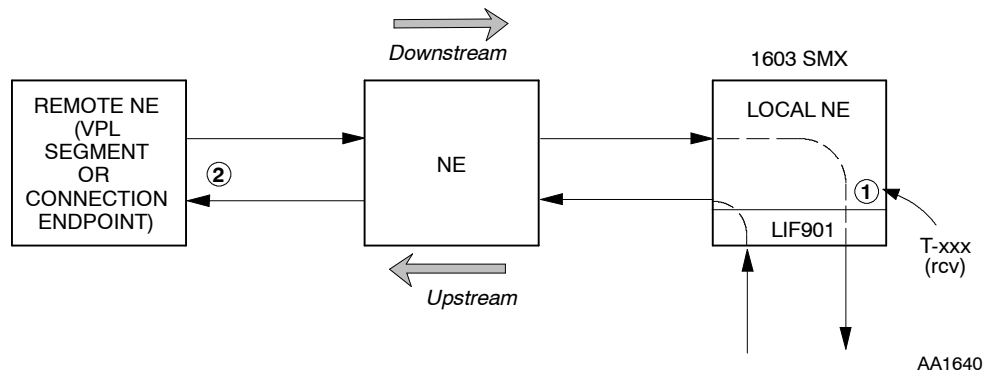

Figure 5. Receive NEND and FEND T-xxx on LIF901
- 76** Find location and direction of alarm in Table B, and take appropriate action to clear the alarm. Figure 5 shows where the T-xxx alarm could occur and also helps determine the upstream and downstream directions.
* This number refers to the location where errors are detected as shown on Figure 5.